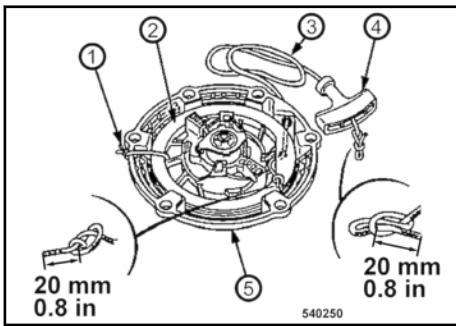

Fig. 62
Secure the coil (2) ↪ Fig. 62 against winding up. For this purpose fix coil and housing (5) with a cable strap (1).